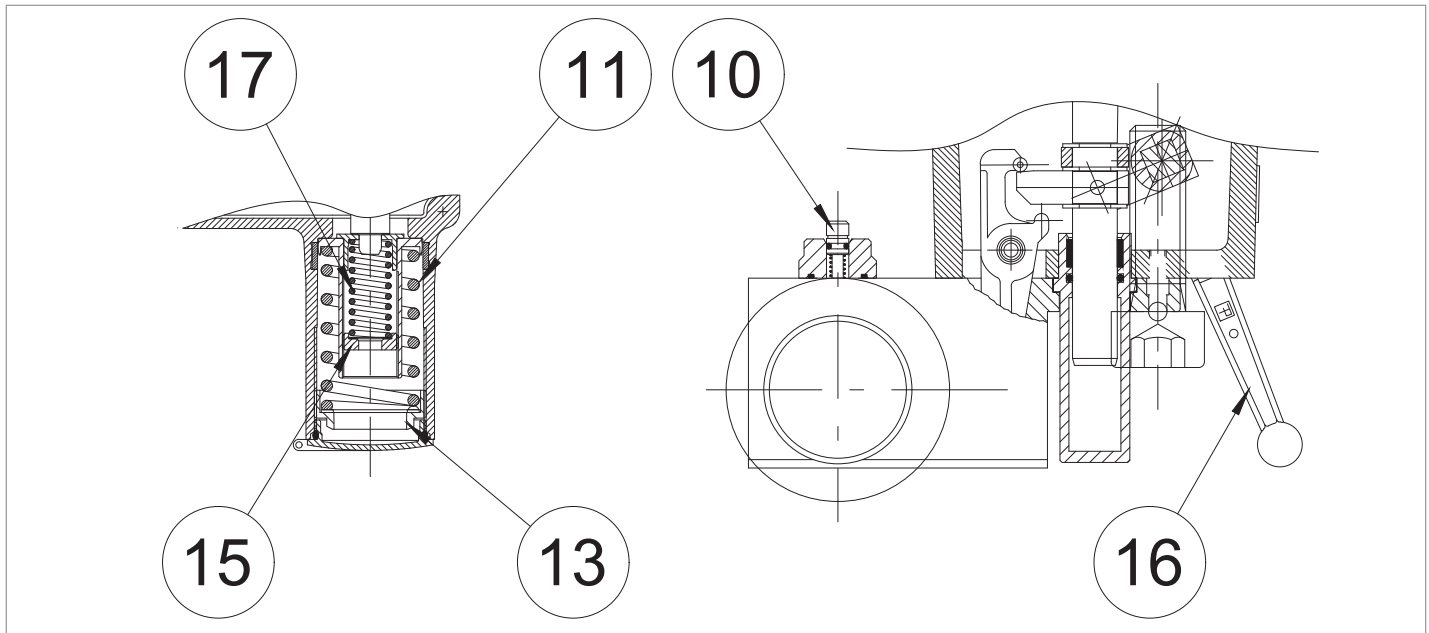

Fig. 8.20. Calibration of model 100 pressure switches
2	Check that the slam-shut valve is in the closed position. NOTICE If the slam-shut valve is in open position, close it via the manual button (Fig. 8.20, ref. 10).
2	<p>Check that the slam-shut valve is in the closed position.</p> <p>NOTICE</p> <p>If the slam-shut valve is in open position, close it via the manual button (Fig. 8.20, ref. 10).</p>